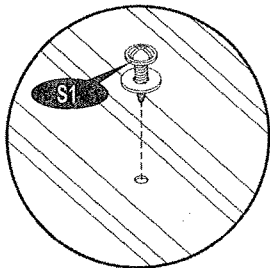

Fig. 3
23. Put weather stripping tape then line up the holes of roof flashing (RF004) to the roof panel and secure with (S2) screws with washers. See fig. 3.